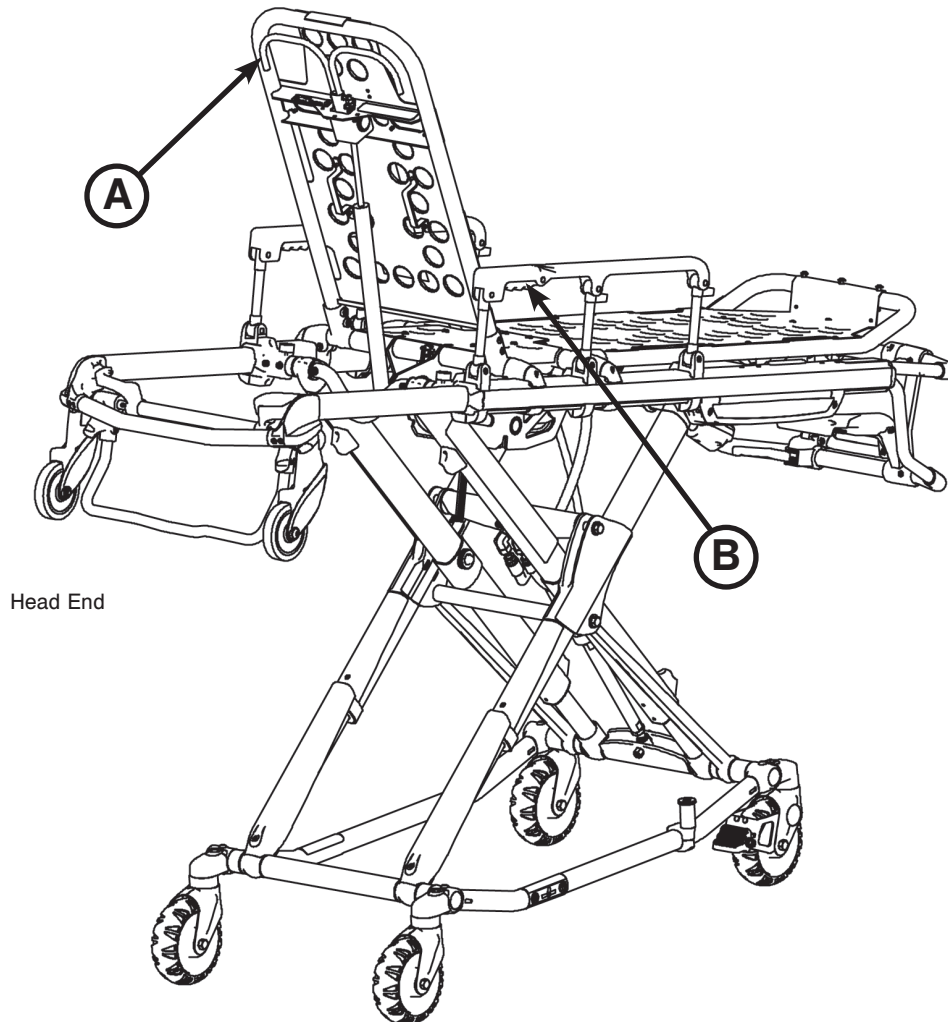

Figure 48: Backrest Elevated and Siderails Raised
To raise the siderails, as shown in Figure 48, lift up on the siderail until the latch clicks and the siderail locks into place.
To raise the backrest, as shown in Figure 48, squeeze handle (A) for pneumatic assist in lifting the backrest to the desired height.